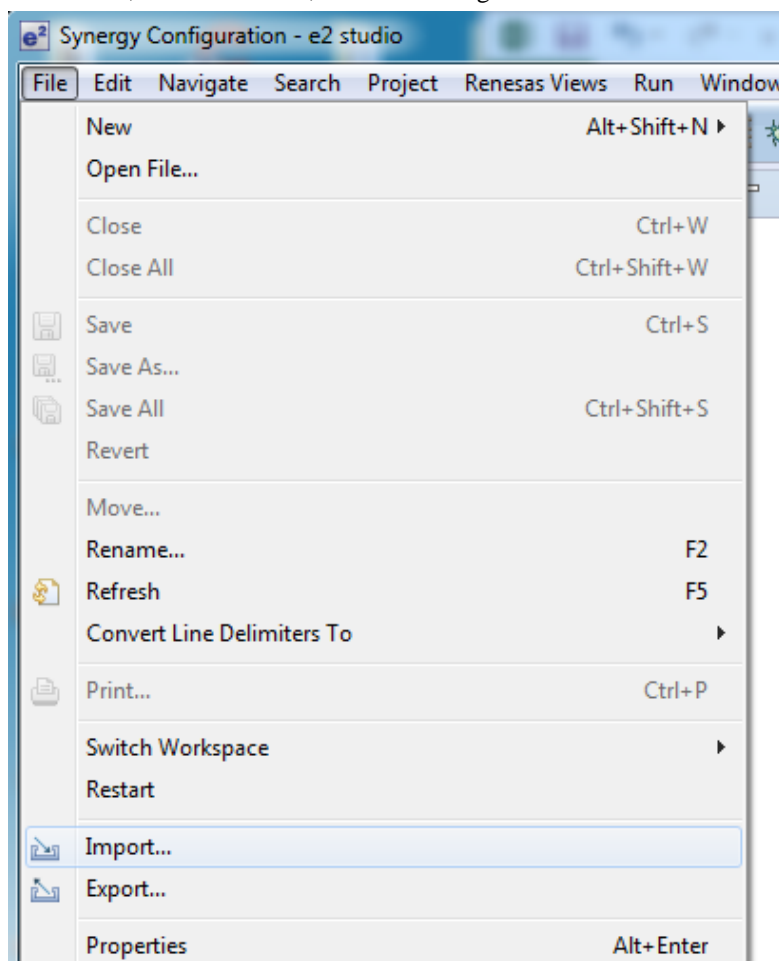

Figure 2.6 File drop-down menu
4. Click **Import** on the **File** menu, in the menu bar, as shown in Figure 2.6.